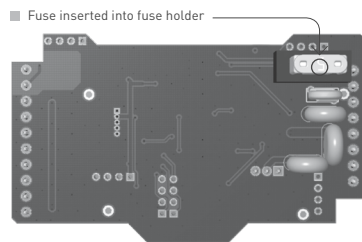

Figure 2 - Underside of the top PCB
- 8 locate the fuse on the underside of the PCB, remove the old fuse from the holder and replace it with a new one (see Figure 2)